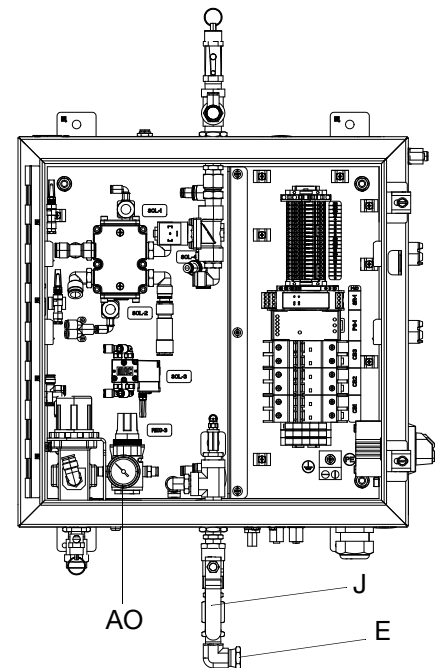

FIG. 25
2. Fully lower the ram by setting the Ram Position Switch (AG) to DOWN and pressing the Ram Actuation Buttons (AI). Leave the switch in the DOWN position.
3. Adjust the Ram Down Air Regulator (AC) to 0 psi. Refer to the Ram Down Air Pressure Gauge (AD) and R3 Regulator (AO) to verify the ram has been depressurized. See FIG. 25.
4. Slowly open the drain cock located on the bottom of each air cylinder (CL).
6. Close the Main Air Shutoff Valve (J).
8. After service is complete, close drain cocks, make all pneumatic connections, and open the Main Air Shutoff Valve (J). Perform the **Adjusting the Ram Up and Ram Down Air Regulators** procedure, page 32.